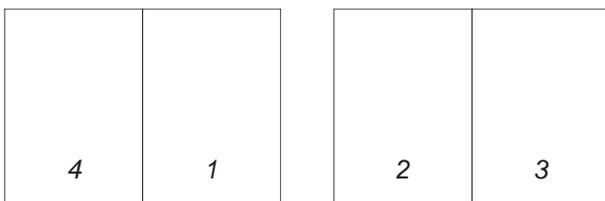
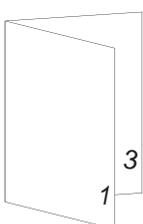

Fig. 12.3 - A 4-page document **Pamphlet** printed.
Fig. 12.4 - A folded 4-page pamphlet.
**Pamphlet** prints 2 pages side-by-side on each sheet of paper (*fig. 12.3*). The pages are printed in such an order that when folded they create a pamphlet with correctly ordered pages (*fig. 12.4*). Typically this option is used to produce small A5 booklets printed sideways on A4 paper, although other sizes may be used too.